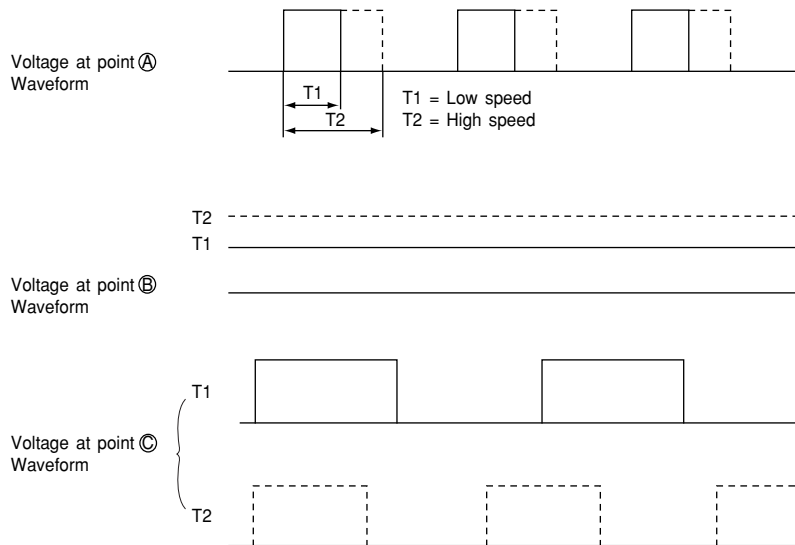

Fig. 7-2
- For the point (A), 15.7 kHz PWM pulse will be output from the pin (24) on the micro computer as shown in Fig. 7-2. The pulse range will vary with different command speed.